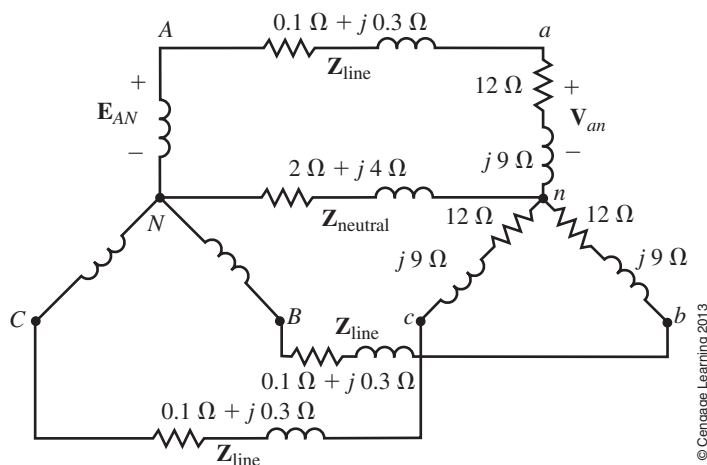

FIGURE 24-49
22. For Figure 24-49, $E_{AN} = 120 \text{ V} \angle 20^\circ$. Draw the single-phase equivalent and:
27. For the circuit of Figure 24-49, assume $Z_{\text{line}} = 0.15 \Omega + j0.25 \Omega$ and $V_{ab} = 600 \text{ V} \angle 30^\circ$. Determine E_{AB} .